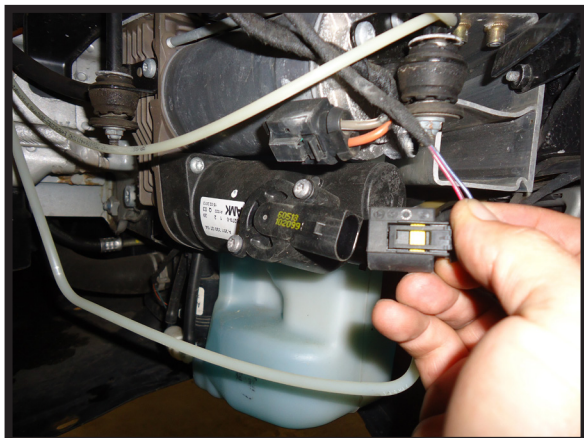

FIGURE 3
4. LOCATE AND DISCONNECT THE TWO (2) ELECTRICAL CONNECTORS FROM THE COMPRESSOR. (FIGURE 3)